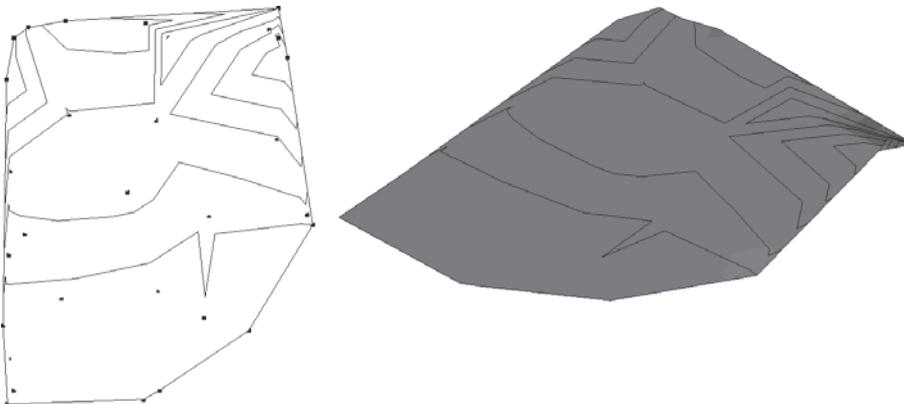

Figure 7.35
5. On the Format tab, set the units in which the points file needs to be imported (see Figure 7.35).